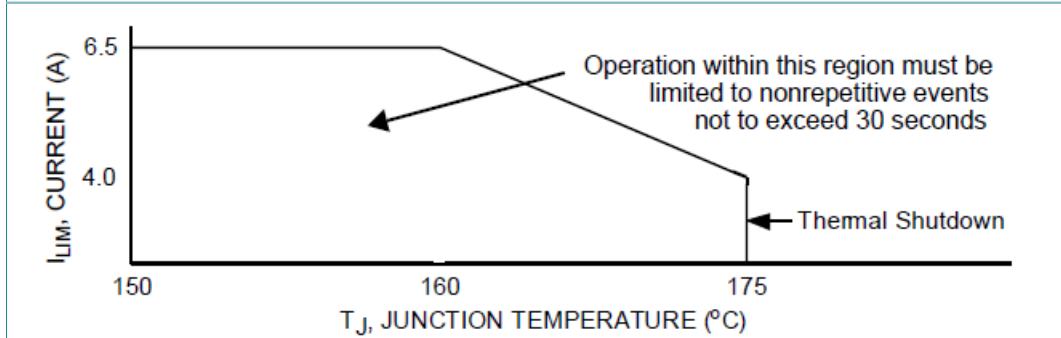
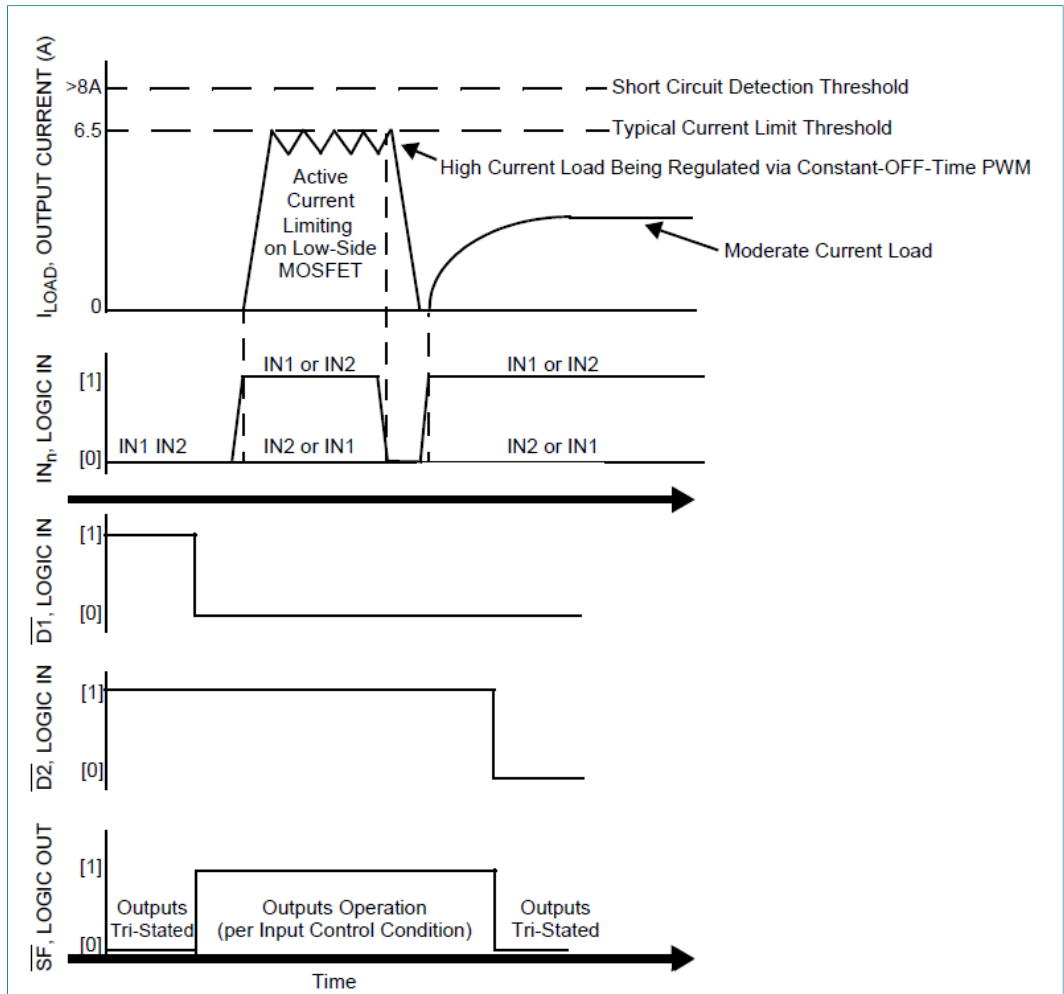
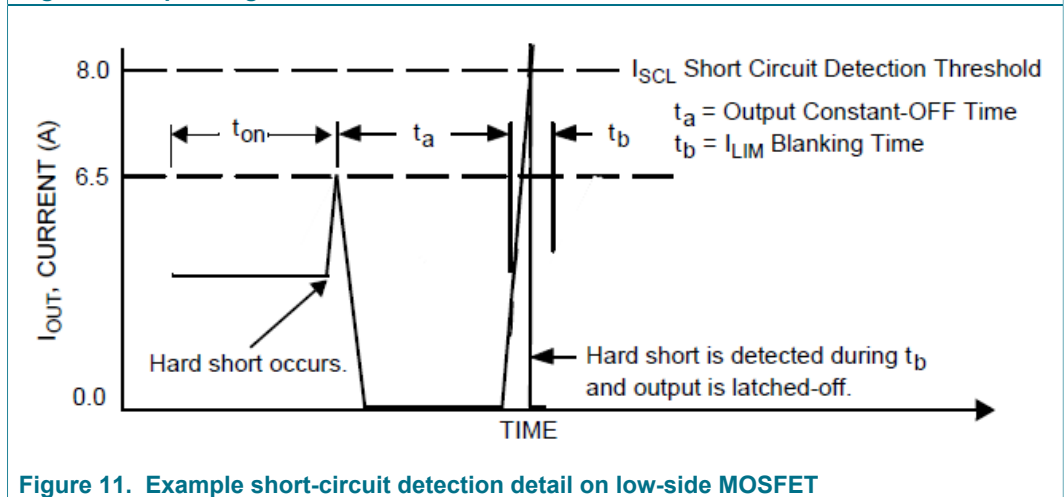

Figure 9. Active current limiting versus temperature (typical)
Figure 10. Operating states
Figure 11. Example short-circuit detection detail on low-side MOSFET
- [5] Load currents ramping up to the current regulation threshold become limited at the ILIM value. The short-circuit current possess a di/dt that ramps up to the ISCH or ISCL threshold during the ILIM blanking time, registering as a short-circuit event detection and causing the shutdown circuitry to force the output into an immediate 3-state latch OFF. See Figure 10 and Figure 11. Operation in current limit mode may cause junction temperatures to rise. Junction temperatures above ~160 °C causes the output current limit threshold to progressively foldback, or decrease with temperature, until ~175 °C is reached, after which the TLIM thermal latch OFF occurs. Permissible operation within this foldback region is limited to nonrepetitive transient events of duration not to exceed 30 seconds. See Figure 9.
A disable timer (time  $t_b$ ) used to detect currents that are higher than current limit is activated at each output activation to facilitate hard short detection (see Figure 11).
The maximum current flow under normal operating conditions is internally limited to  $I_{LIM}$  (5.2 A to 7.8 A). When the maximum current value is reached, the output stages are 3-stated for a fixed time ( $t_a$ ) of 20  $\mu$ s typical. Depending on the time constant associated with the load characteristics, the current decreases during the 3-state duration until the next output ON cycle occurs (see Figure 11 and Figure 14).
The current limiting threshold value is dependent upon the device junction temperature. When  $-40\text{ °C} \leq T_J \leq 160\text{ °C}$ ,  $I_{LIM}$  is between 5.2 A to 7.8 A. When  $T_J$  exceeds 160 °C, the  $I_{LIM}$  current decreases linearly down to 4.0 A typical at 175 °C. Above 175 °C the device overtemperature circuit detects  $T_{LIM}$  and overtemperature shutdown occurs (see Figure 9). This feature allows the device to remain operational for a longer time but at a regressing output performance level at junction temperatures above 160 °C.